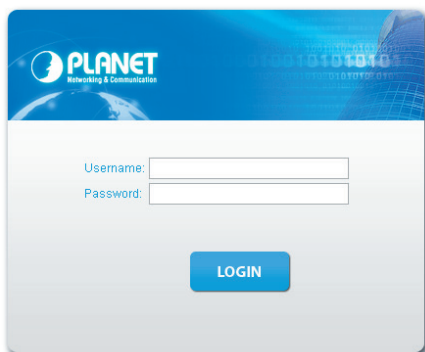

Figure 8-2: Login Screen
2. When the following dialog box appears, please enter the default user name and password "**admin**". The login screen in Figure 8-2 appears.